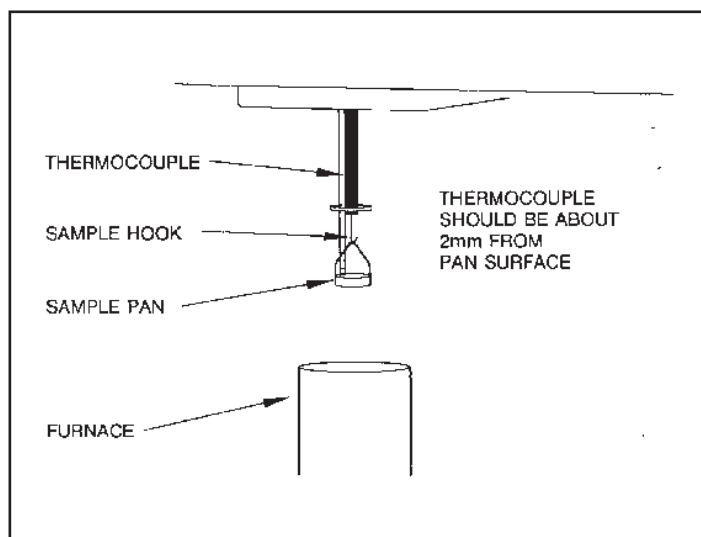

Figure 5.2
9. Load a sample pan to make sure that the end of the thermocouple does not touch it (Figure 5.2).